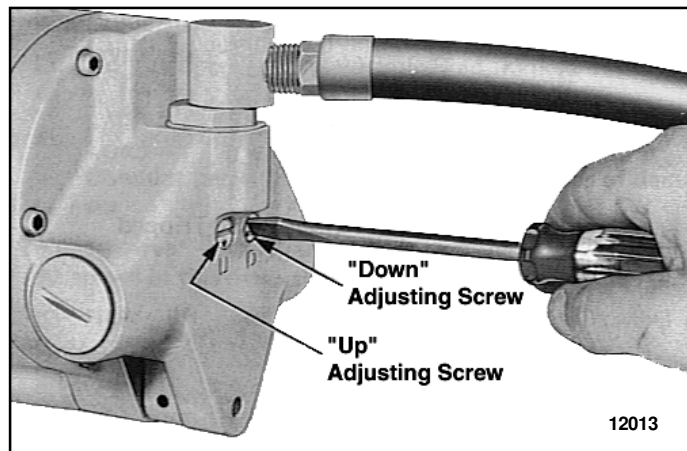

Figure 2-4. Hoisting and Lowering Speed Adjustment.
- b. To adjust the hoisting or lowering speed, turn appropriate regulator_screw (Figure 2-4) in either direction a little at a time while operating hoist under load.